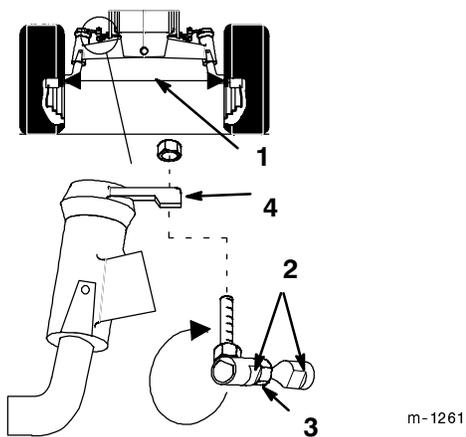

Figure 31
Maintain toe-in of the front wheels as specified. If uneven tire wear, lawn scuffing or hard steering develop adjustment may be required. Check the toe-in after every 100 operating hours or yearly, whichever occurs first (Fig. 31).
3. Measure, between the rims, at spindle level, in the front and rear of the wheels (Fig. 31).
2. Remove ball joint from one steering lever (Fig. 31).
4. Hold flats on ball joint to align with flats on tie rod and tighten jam nut (Fig. 31).